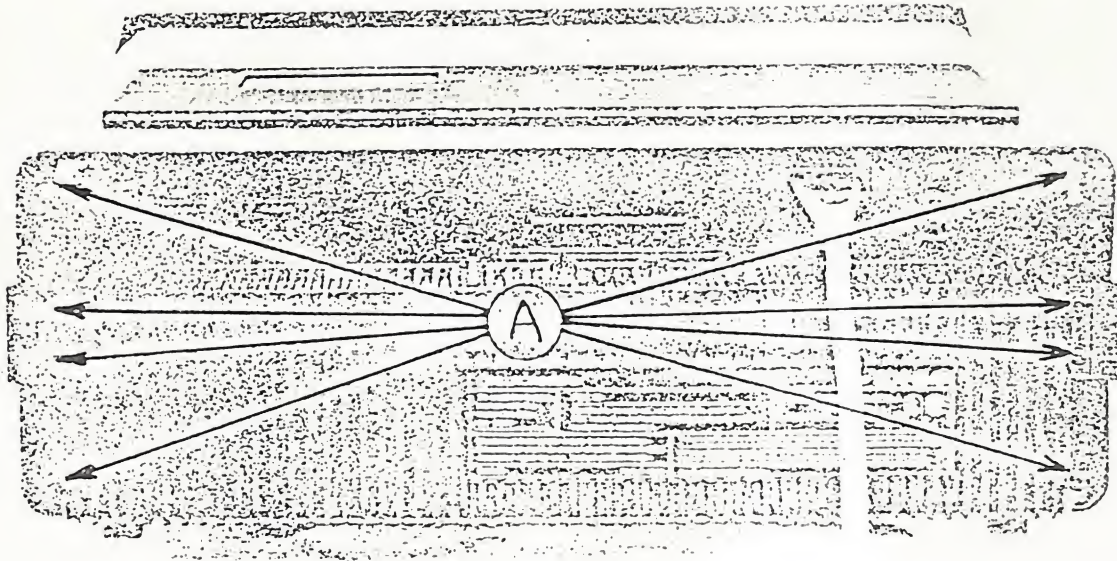

Fig. 1
1. Remove six screws marked A in Fig. 1.